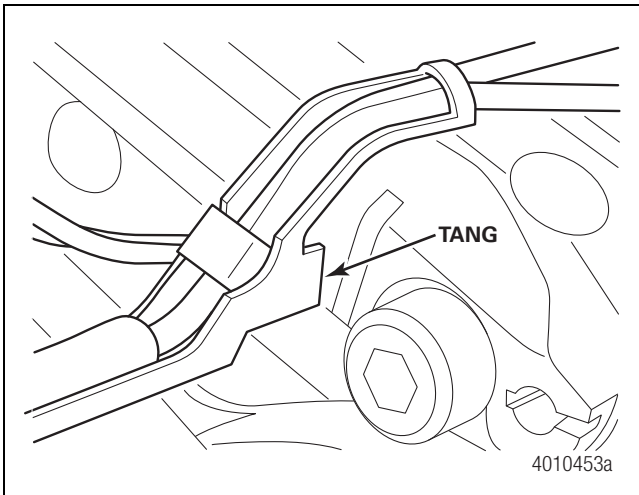

Figure 4.24
- B. Position the PWVI assembly into the brake and engage the tang into the housing. Figure 4.24.